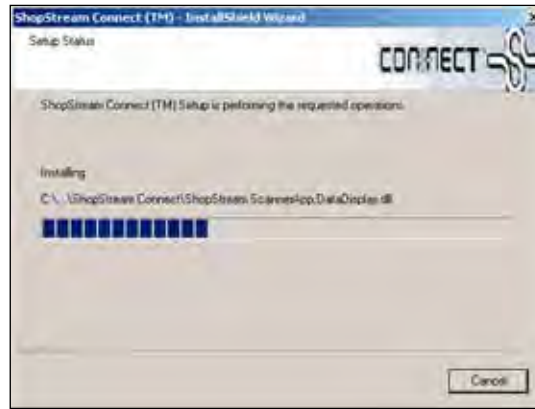

Figure C-5 Sample Setup Status screen
5. Select **Install** when the Ready to Install the Program screen displays to begin the installation. The Setup Status screen tracks progress as the program installs (Figure C-5).